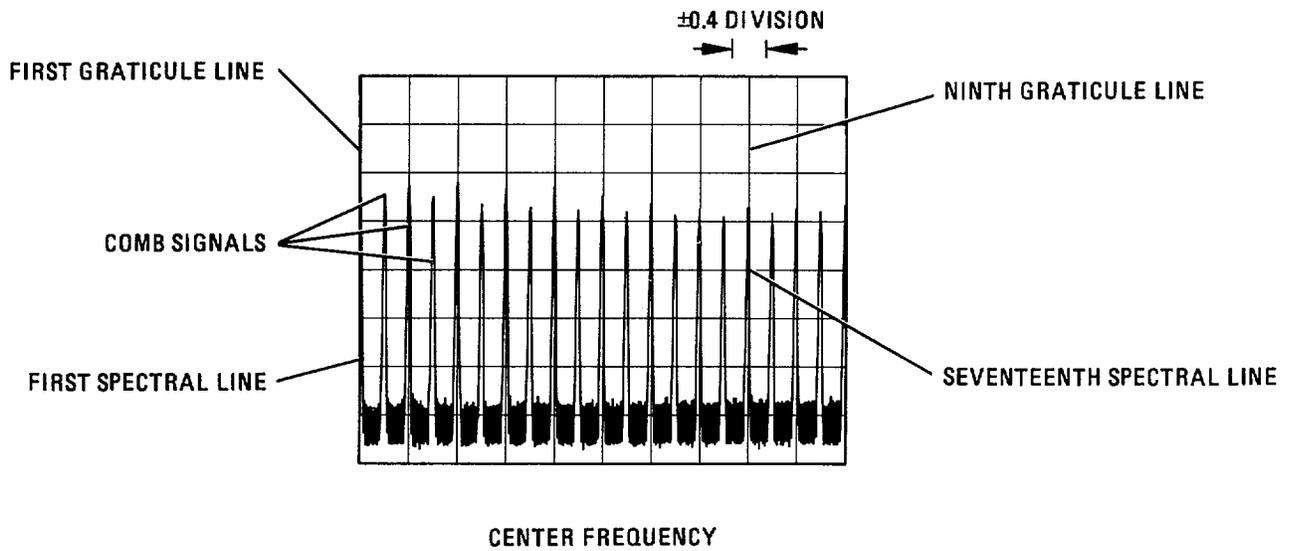

Figure 4-3. Frequency Span Accuracy Measurement for Seventeenth Spectral Line
5. Set comb generator COMB FREQUENCY-MHz for 10-MHz comb. Set spectrum analyzer FREQ SPAN/DIV to 20 MHz. Adjust TUNING control to position one spectral line at first graticule line. Measure error between 17th spectral line and ninth graticule line as shown in Figure 4-3. Error should be no greater than  $\pm 0.4$  division.